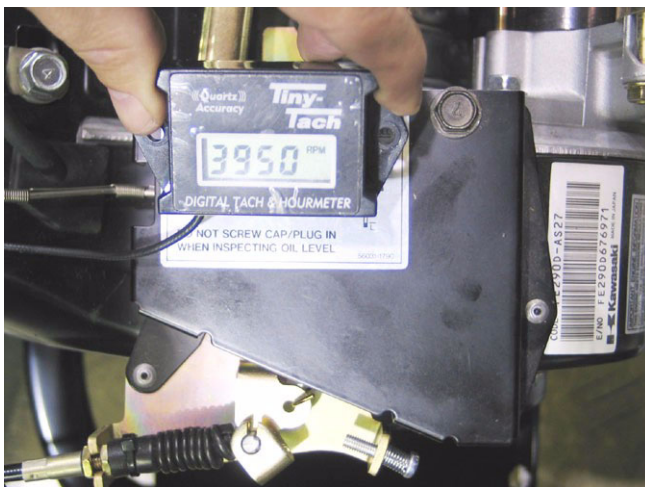

Figure 5.37
- 5.37. Top-no-load engine speed should be  $4,000 \pm 50$  RPM. Confirm this with a tachometer. See Figure 5.37.